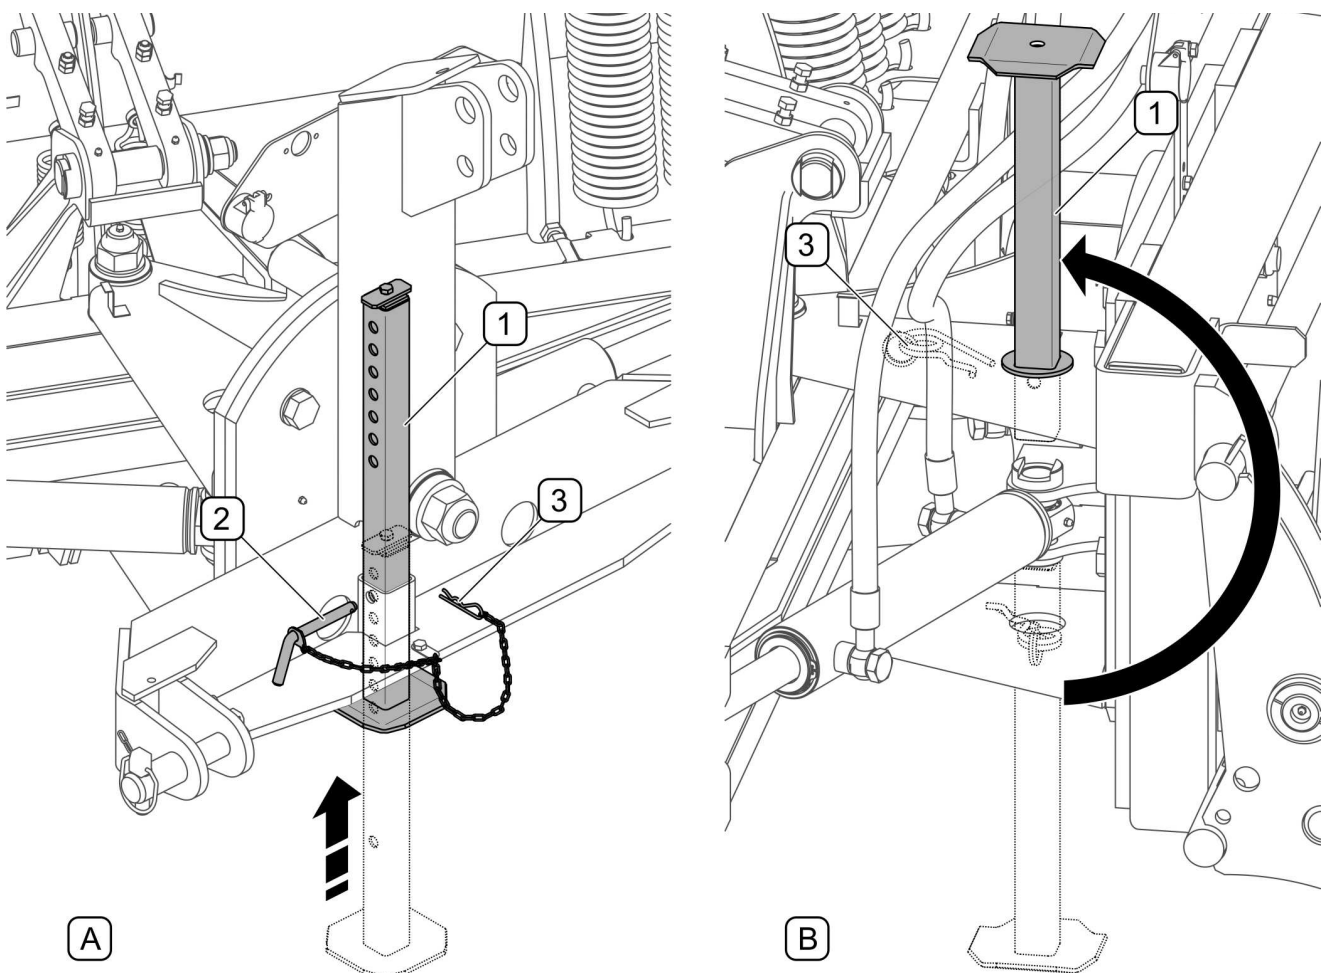

FIGURE 4.4 Raising parking stand.
- lower arm and turn frame downwards (A) so that mounting points on quick mounting frame are below the mounting points of the plough;
- lift the arm (B) so that the upper mounting points are in the plough hooks; controlling the loader frame tilt it back (C), causing the locking of the quick mounting mechanism;
- raise the parking stand (FIGURE 4.4)
In ploughs with (pivot) three-point linkage cat. II-III (A) after mounting the plough on the carrying vehicle insert parking stand (1) in the guide upwards (FIGURE 4.4) and secure its position using a pin (2) and secure with spring linchpin (3).
In ploughs with swing linkage (e.g. three-point linkage cat. II, for ŁC-1650 loader, EURO-SMS) after linking to the carrying vehicle, remove the support inserted into the lower opening of cylinder frame, reverse it to put in the upper frame opening (FIGURE 4.4) and secure with linchpin (3)